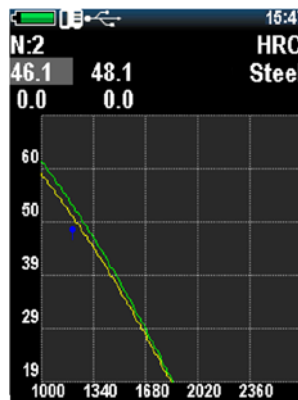

Figure 2.38 - After correcting the first sample
6. Use <  > key to move to the next value, press <  > to save the first one. After the correction of the hardness value of the first sample the display will look like on Figure 2.38.